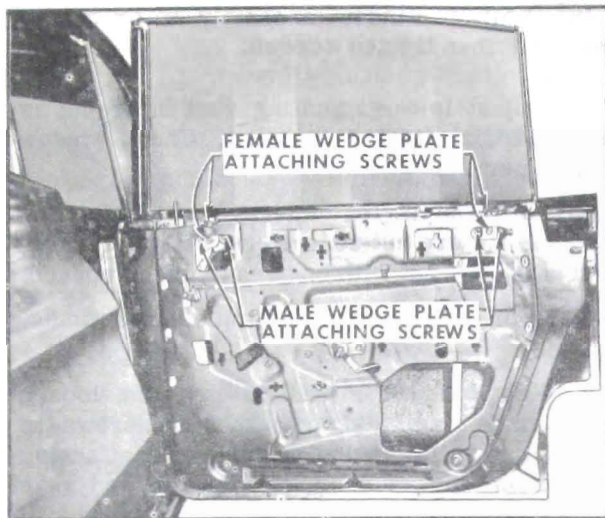

Figure 2-41—Rear Door Assembly - "39" Styles
2. Through access holes in door inner panel remove screws securing rear door window front and rear male wedge plates to window lower sash channel and remove wedge plates. (See Figure 2-41)
a. Loosen lower adjusting stud nut on both front rear guide cams. (See Figure 2-41)
(1) With window in full up position, loosen front guide cam adjusting stud nut. (See Figure 2-41)
(2) Loosen front female wedge plate attaching screw. (See Figure 2-41)
(1) With window in full up position, loosen guide cam lower adjusting stud nut and screws securing female wedge plate and guide cam to top of door inner panel. (See Figure 2-41)
(2) Position window assembly in or out as required; then tighten screws.
(3) Adjust lower adjusting stud in or out as required and tighten stud nut. Check window for proper operation.